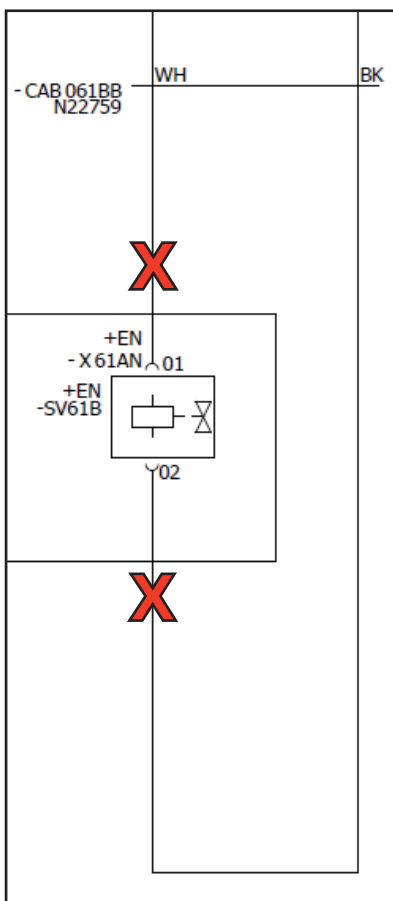

Figure 3 - Wires to be Cutted and Insulated on the +EN-X61AN Connector
- 1.6. Disconnect the +EN-X61AN electrical connector and cut the two wires from the CAB061BB cable close to the connector shell. See Figure 3. Discard the connector.
- 1.7. Cut two pieces of N27548-18 heat shrink tubing and install a piece on both cut wires to insulate them properly. See Figures 3 & 4.